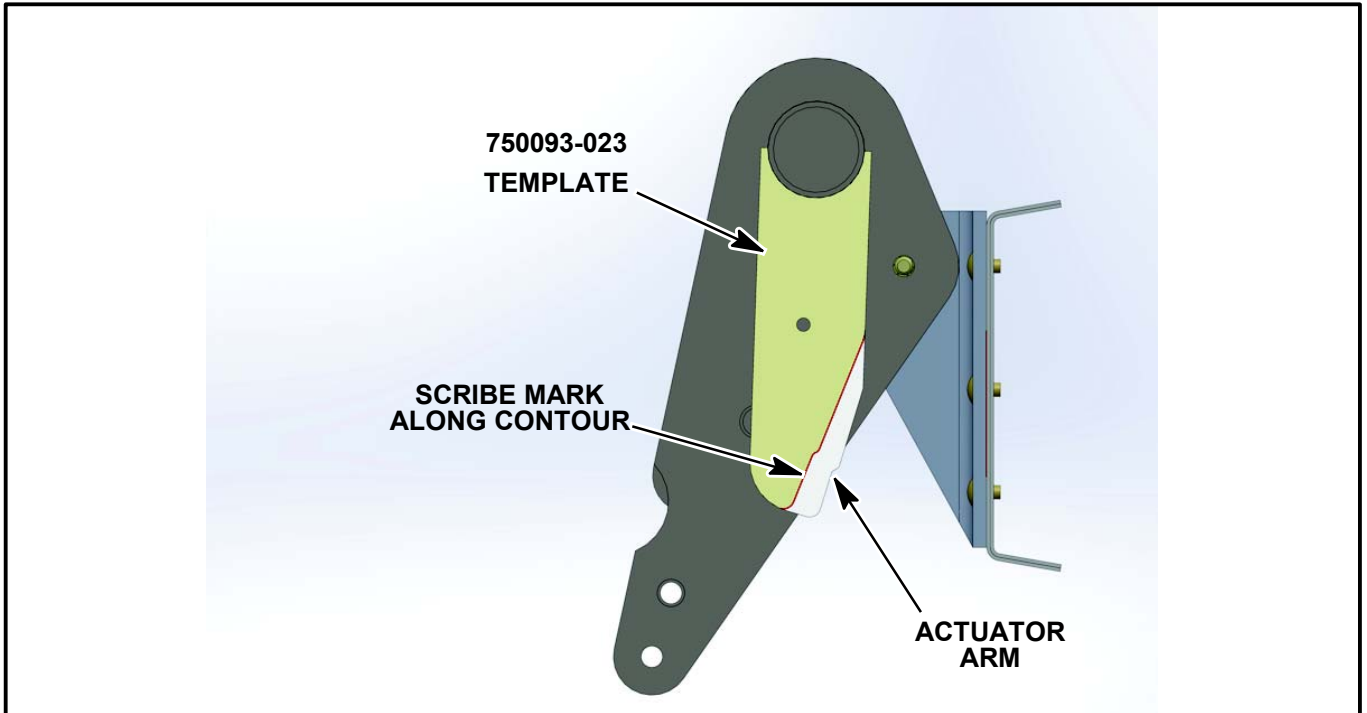

Figure SIM20-142-12 - CONTOUR SCRIBE 750093-023 TO ACTUATOR ARM
- 1.13. Following contour of the template, mark actuator arm with the sharpie (included in kit). (Refer to Figure SIM20-142-12.)